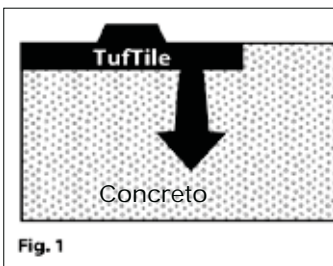

Fig. 1
4. Slowly press the **TufTile** into the wet concrete until the base of the truncated domes is flush with the concrete. **(Figure 1) Do not stand on the tile during installation.** (**TufTile** polymer products are not recommended for asphalt installations)